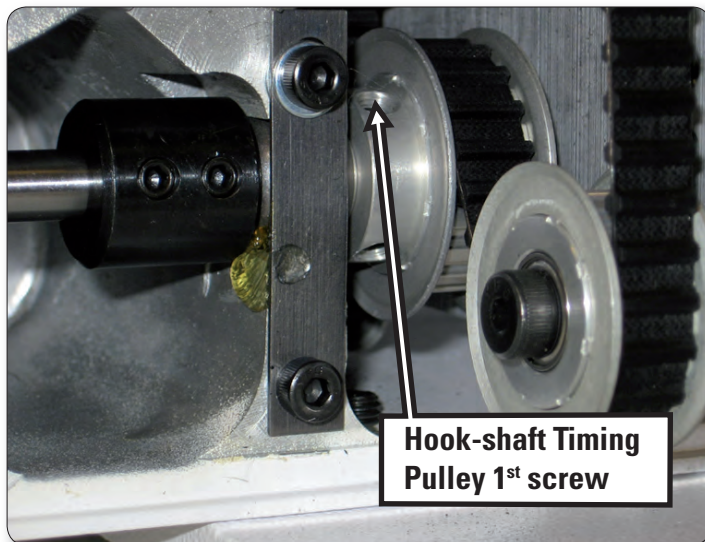

Figure 3.6
4. The hook-shaft timing pulley (Figure 3.6 on page 20) (2.5 mm handle Allen).
Note: The hook-shaft timing pulley rotates the opposite direction as the main shaft timing pulley. Carefully note the labeled first screw (Figure 3.6).